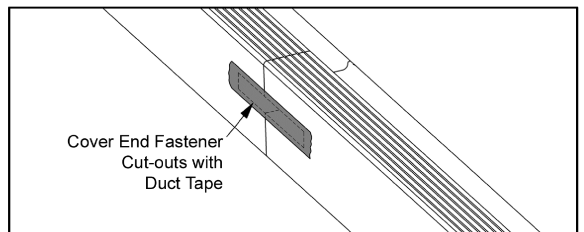

Figure 4
- 4** Cover slot for Sure-Lock end fasteners with duct tape (Fig. 4)